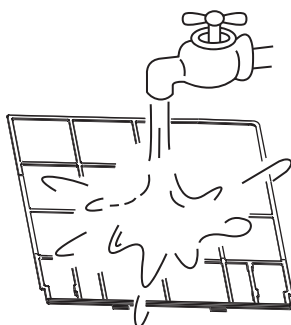

Fig.6-3
- The air-in side should face down when using water. (Refer to Fig 6-3)